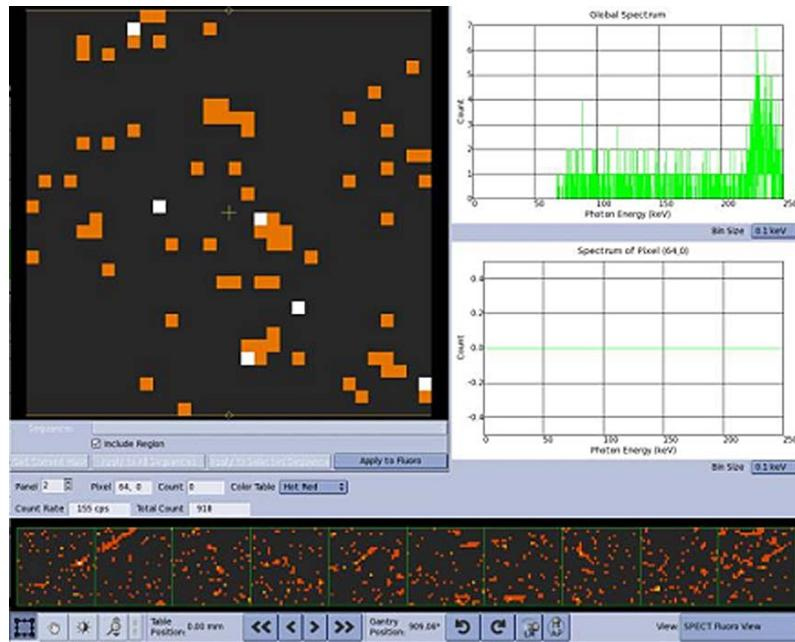

Figure 4-20
4. Observe the live SPECT image (Figure 4-20) . This will confirm whether or not all ten detector panels are working.